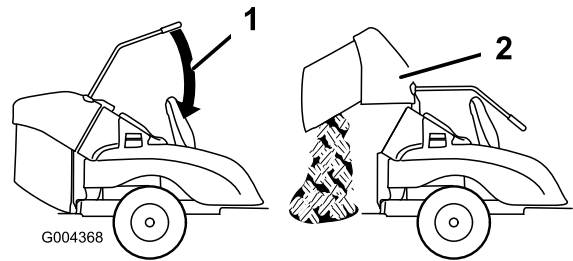

Figure 17
3. Raise the collection bag by extending the DFS lever and then pulling down (Figure 17).